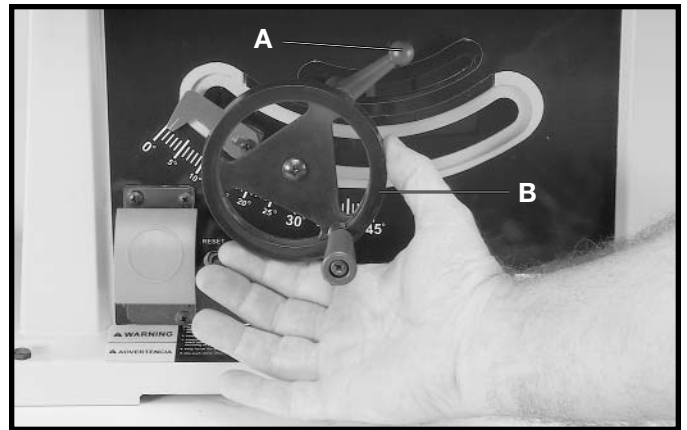

Fig. 45
To tilt the saw blade, loosen blade tilting lock handle (A) Fig. 45, move handwheel (B) until the blade is at the desired angle and tighten lock handle (A). **NOTE:** The lock handle (A) is spring-loaded and can be repositioned by pulling out on the handle (A) and repositioning it on the serrated stud located underneath the handle. **WARNING: THE BLADE TILTING LOCK HANDLE (A) MUST BE LOCKED DURING ALL CUTTING OPERATIONS.**